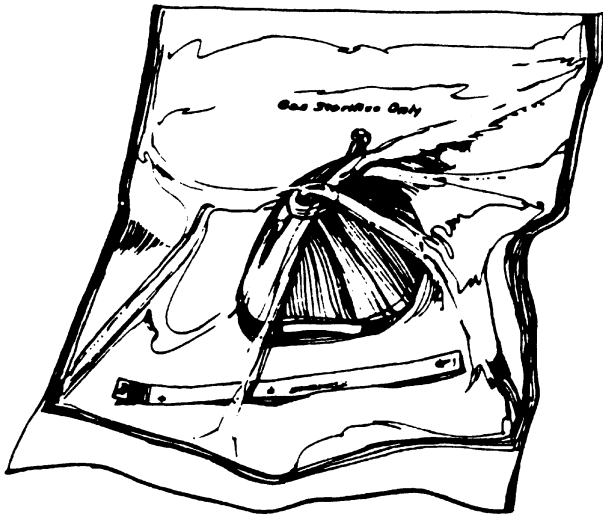

Figure 24. ALLOW 1-1/2 TO 2 INCHES FROM THE ITEM TO ALL SEALS.
- Provide adequate room for the item leaving at least 1 1/2 inches from the item to all seals (Figure 24).